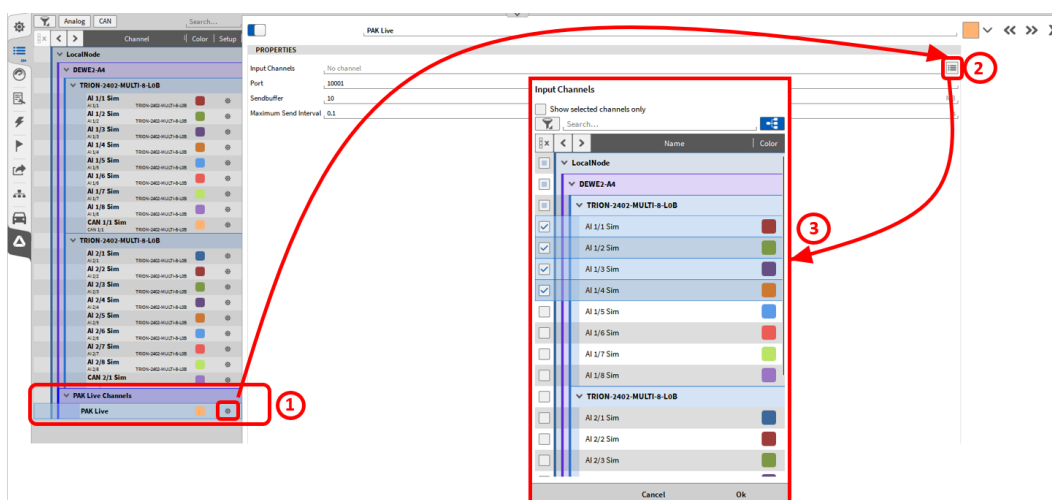

Figure 3: Edit PAK Live data transfer channel
6. Press the settings button (see ① in Figure 3) of the PAK Live transfer channel, to open the properties.
7. Press the button for input channels (see ② in Fehler! Verweisquelle konnte nicht gefunden werden.) to open the window for selecting the signals, which shall be transferred (see ③ in Figure 3).